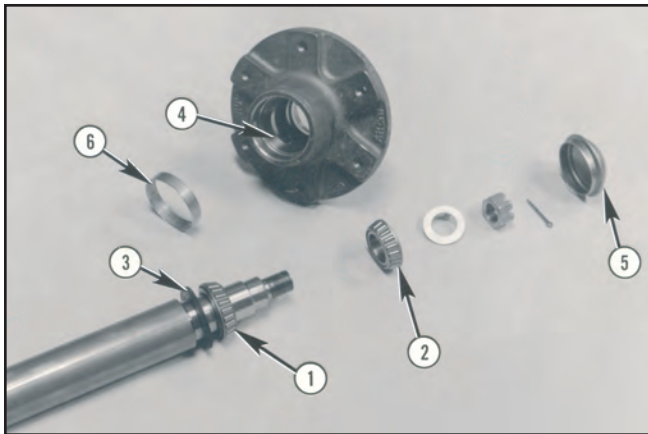

FIGURE 83
HINIKER shredders are equipped with O.D. riding triplex (3 labyrinths) seals. They also have a replaceable seal riding ring (6) and zerk relube in the hub. This system is highly effective when properly installed and maintained. See Figure 83 on page 36.